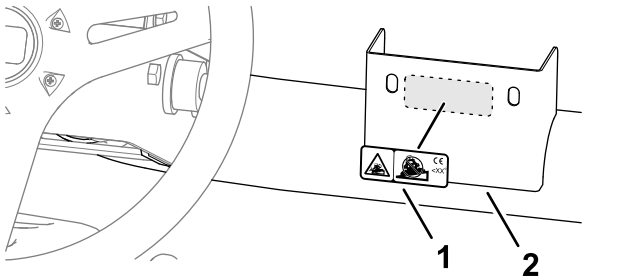

Figure 35
1. Wipe clean the steering-arm bracket with alcohol, and allow the bracket to dry (Figure 35).
2. Remove the backing and apply the CE tilt danger decal to the bracket (Figure 35).